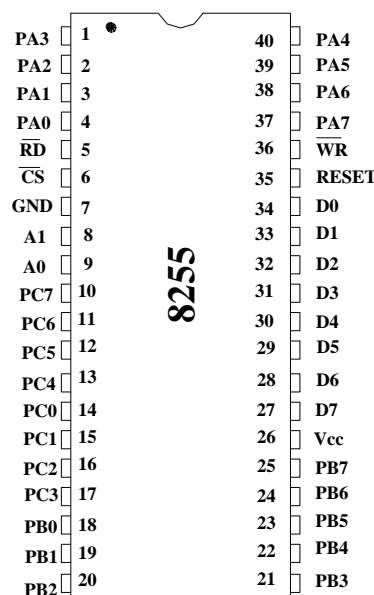

Figure 1: 8255 Pin Configuration
The 8255 is a general purpose programmable I/O integrated circuit (IC) used to interface peripheral devices to the microprocessor system bus. Figure 1 shows the pin configuration of the 8255.